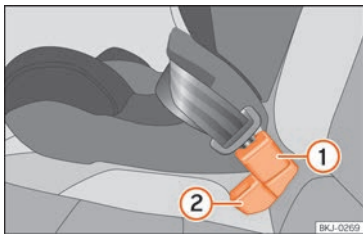

Fig. 43 Position of the belt buckle on the rear seat
- Place the middle seat's belt buckle »» Fig. 43
① behind the side seat's belt buckle »» Fig. 43
②.
- Plug the middle seat's seat belt into the middle seat's belt buckle »» Fig. 43 ① and make sure it clicks in place.
- For seat belts to be correctly fitted, the buckles must not be twisted »» Fig. 43.